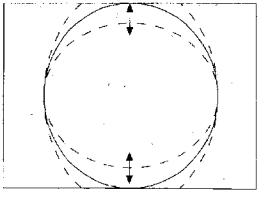

Fig. 9
- d) Adjust the vertical size to obtain overscan (fig. 9).